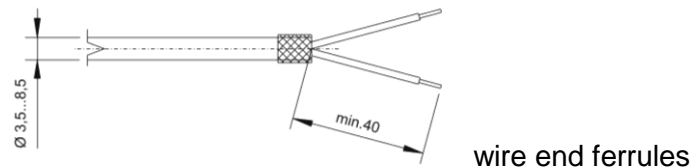

Fig. 3
- Strip both wires as in the figure 3.